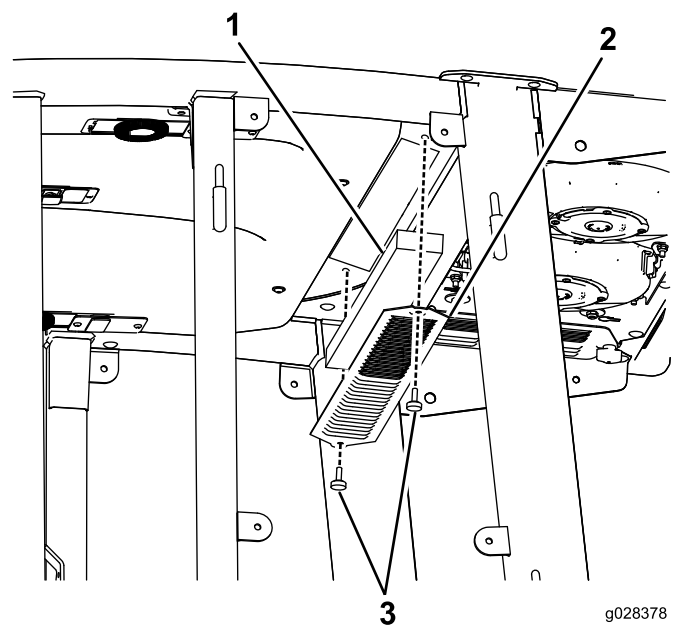

Figure 106
3. Remove the cabin roof of the cab by removing the 22 bolts that secure the roof (**Figure 106**).
4. Remove the air filters (**Figure 106**).
5. Remove and clean the air-conditioning coils (**Figure 106**).